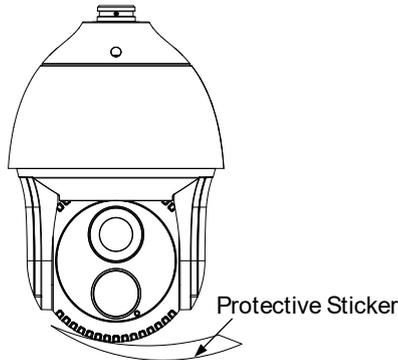

Figure 3-2 Remove Protective Sticker
1. Remove the protective sticker as shown in Figure 3-2.